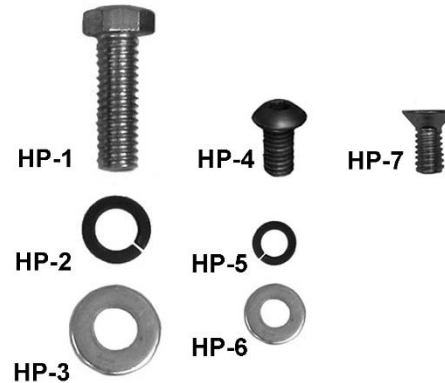

Figure 2
7.1.2 Hardware package (Figure 2)